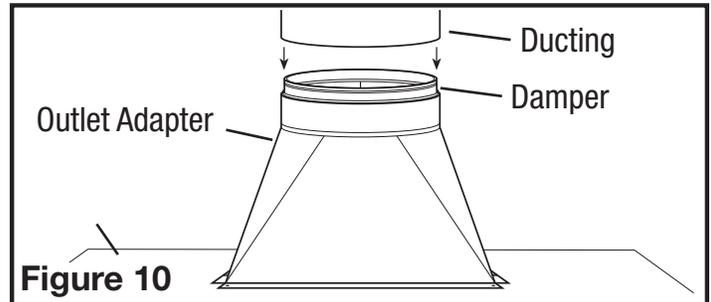

Figure 10
4. Connect the ducting to the outlet adapter and damper. Secure in place using tape to seal all joints (Figure 10).